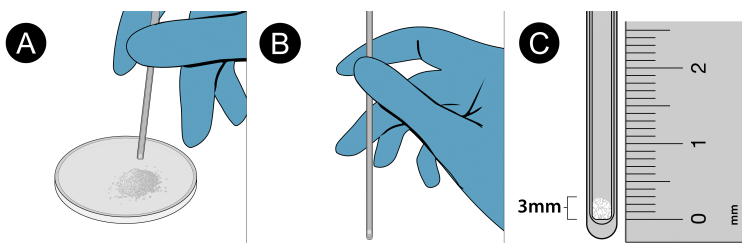

Figure 1. Collect a sample in a capillary tube
3. Transfer a small pile of the sample to the center of a watch glass, then tap the open end of the capillary tube into the sample as shown in Figure 1Ⓐ. Load it 2-3 mm deep.
4. Invert the tube. Tap the bulbous tube end on the lab bench several times to compact the sample into the closed end (Figure 1Ⓑ).
5. Collect and compact additional sample if necessary to load the tube with a sample height of 2-3 mm (Figure 1Ⓒ). Do not exceed 3 mm.